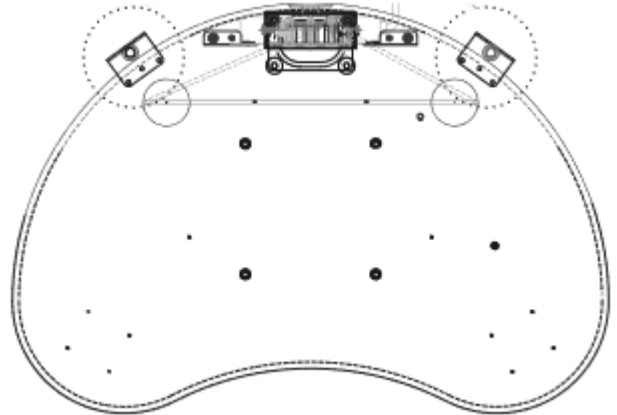
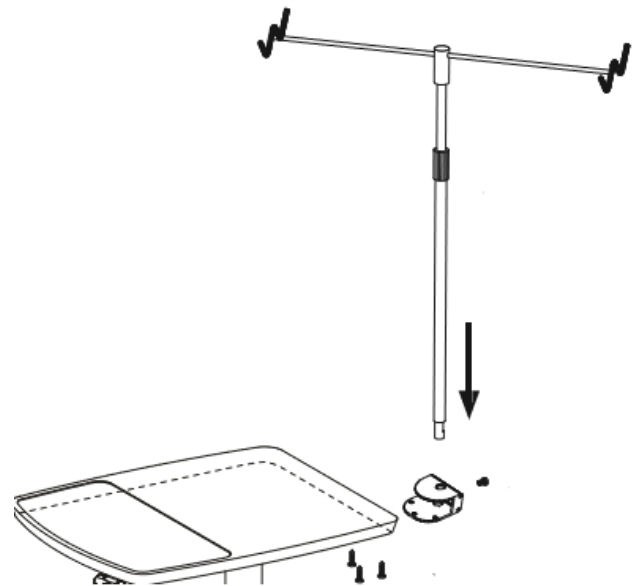

Figure 1. The mounting positions for the equipment pole mounting bracket.
Figure 2. The EP-1 being attached to the worksurface.
(1) 1/4-20 x 1/2" Socket Cap Screw
(3) 10 x 3/4" Pan Head Wood Screws
- 1** There are two predrilled mounting locations on each worksurface, one on the rear left and the other on the rear right (figure 1). Using the Phillips head screwdriver, secure the equipment pole mounting bracket to one of these two predrilled mounting locations using (3) 10 x 3/4" pan head wood screws (figure 2).
- 2** Insert the equipment pole into the large hole on the equipment pole mounting bracket (figure 2).
- 3** Insert the 1/4-20 x 1/2" socket cap screw into the rear side of the equipment pole mounting bracket. Using the 5/32" Allen wrench, tighten the socket cap screw to secure the equipment pole in the equipment pole mounting bracket (figure 2).